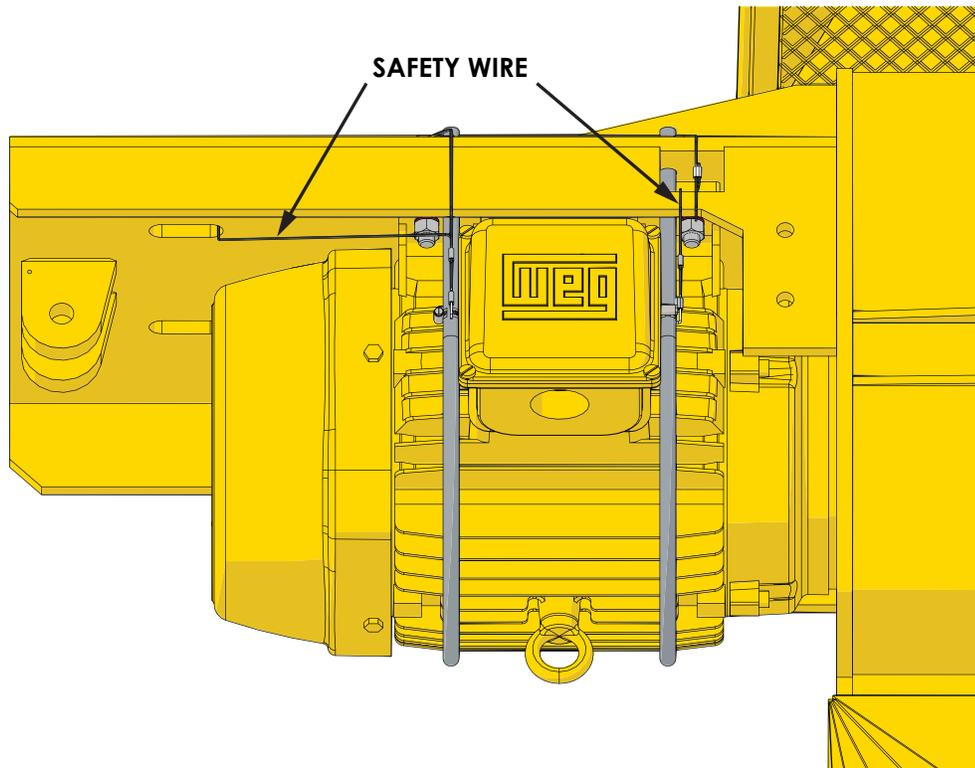

Figure 5: Safety Securement for U-Bolts
2. Loop existing wire ropes crimped to hose clamps through the blower motor mount cutouts as shown on Figure 5. Ensure minimal slack in safety wire.